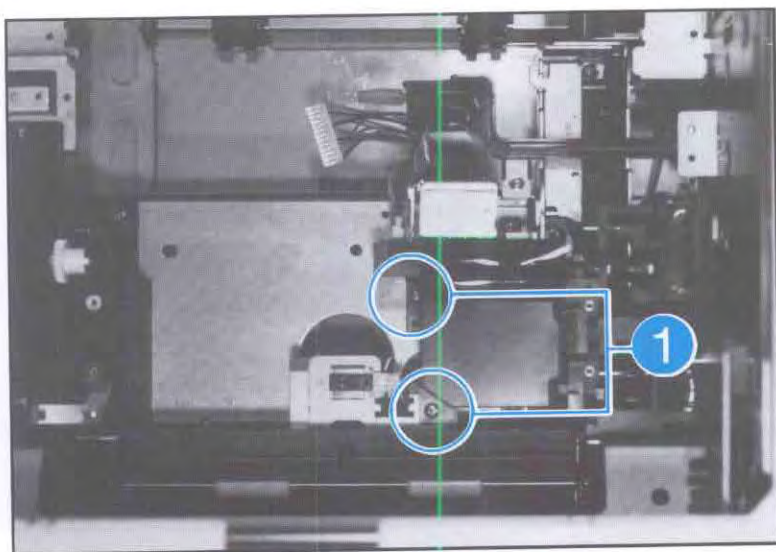
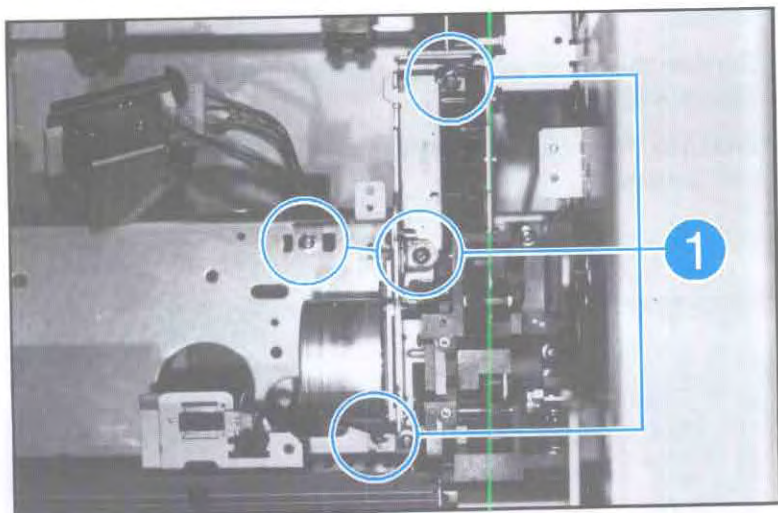

Figure 6-33. Main Motor Drive Train
Figure 6-35. Main Motor Drive Train (continued)
7. Remove the (2) screws securing the Main Motor Cover and remove the cover (see Figure 6-33, callout 1).
12. Remove the (4) washer-head screws securing the Main Motor Drive Train and remove the assembly by sliding toward the left and lifting upward (see Figure 6-35, callout 1).
9. The Main Motor Drive Train (see Figure 6-33 through Figure 6-35).